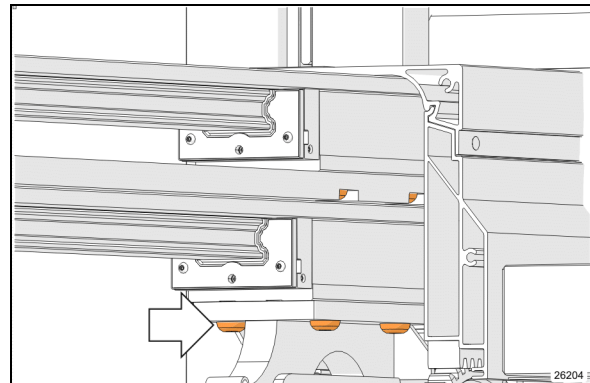

FIGURE 48: LOWER CARRIAGE MOUNTING SCREWS
4. Remove the lower carriage mounting screws. (Figure 48)
13. Re install the lower carriage mounting screws. (Figure 48).